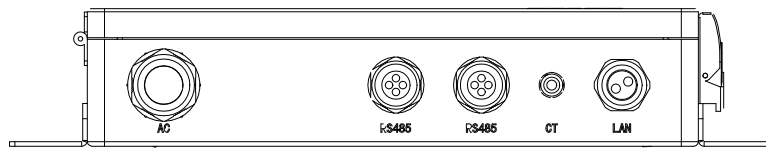

Figure 5-5
- EMB-100 can be placed horizontally to work, as shown in Figure 5-5.